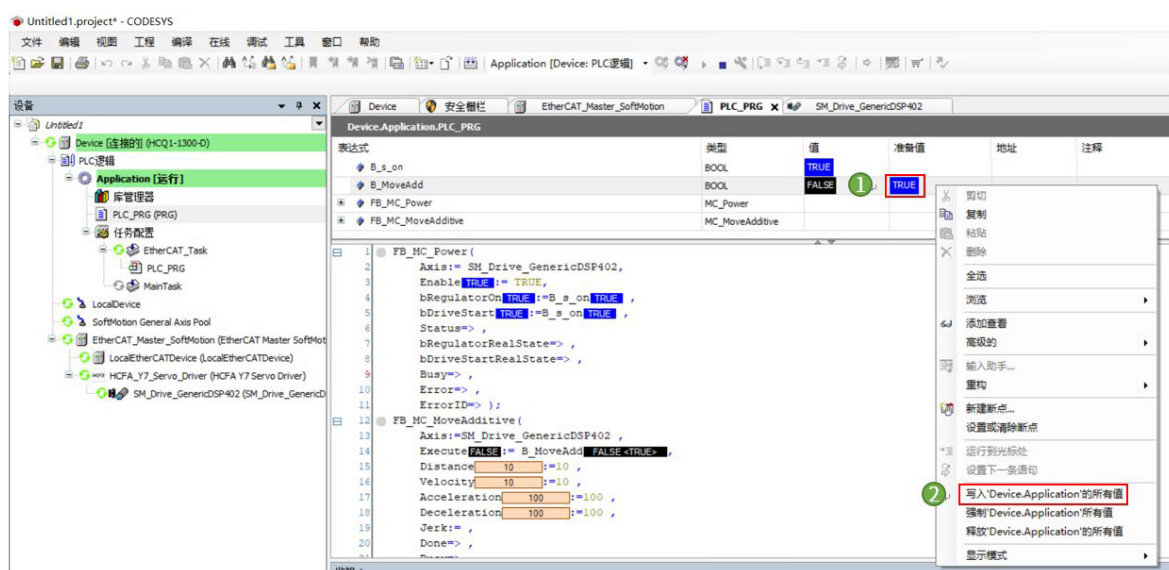

Figure 13-21 Test run
3. In the same way, as shown in Figure 13-21, after operating the B_Moveadd variable, the motor rotates forward one revolution. So far, the test run of the servo motor is completed.